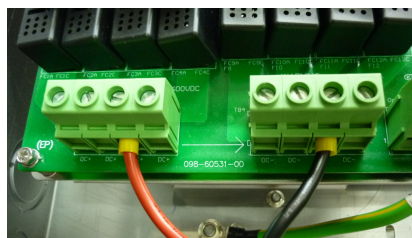

Figure 7.1.5: DC Input Terminal
- vii. Double confirm the DC cable from the DC terminal in order to ensure all the DC cables had been tighten firmly in proper location as figure 7.1.5 described: